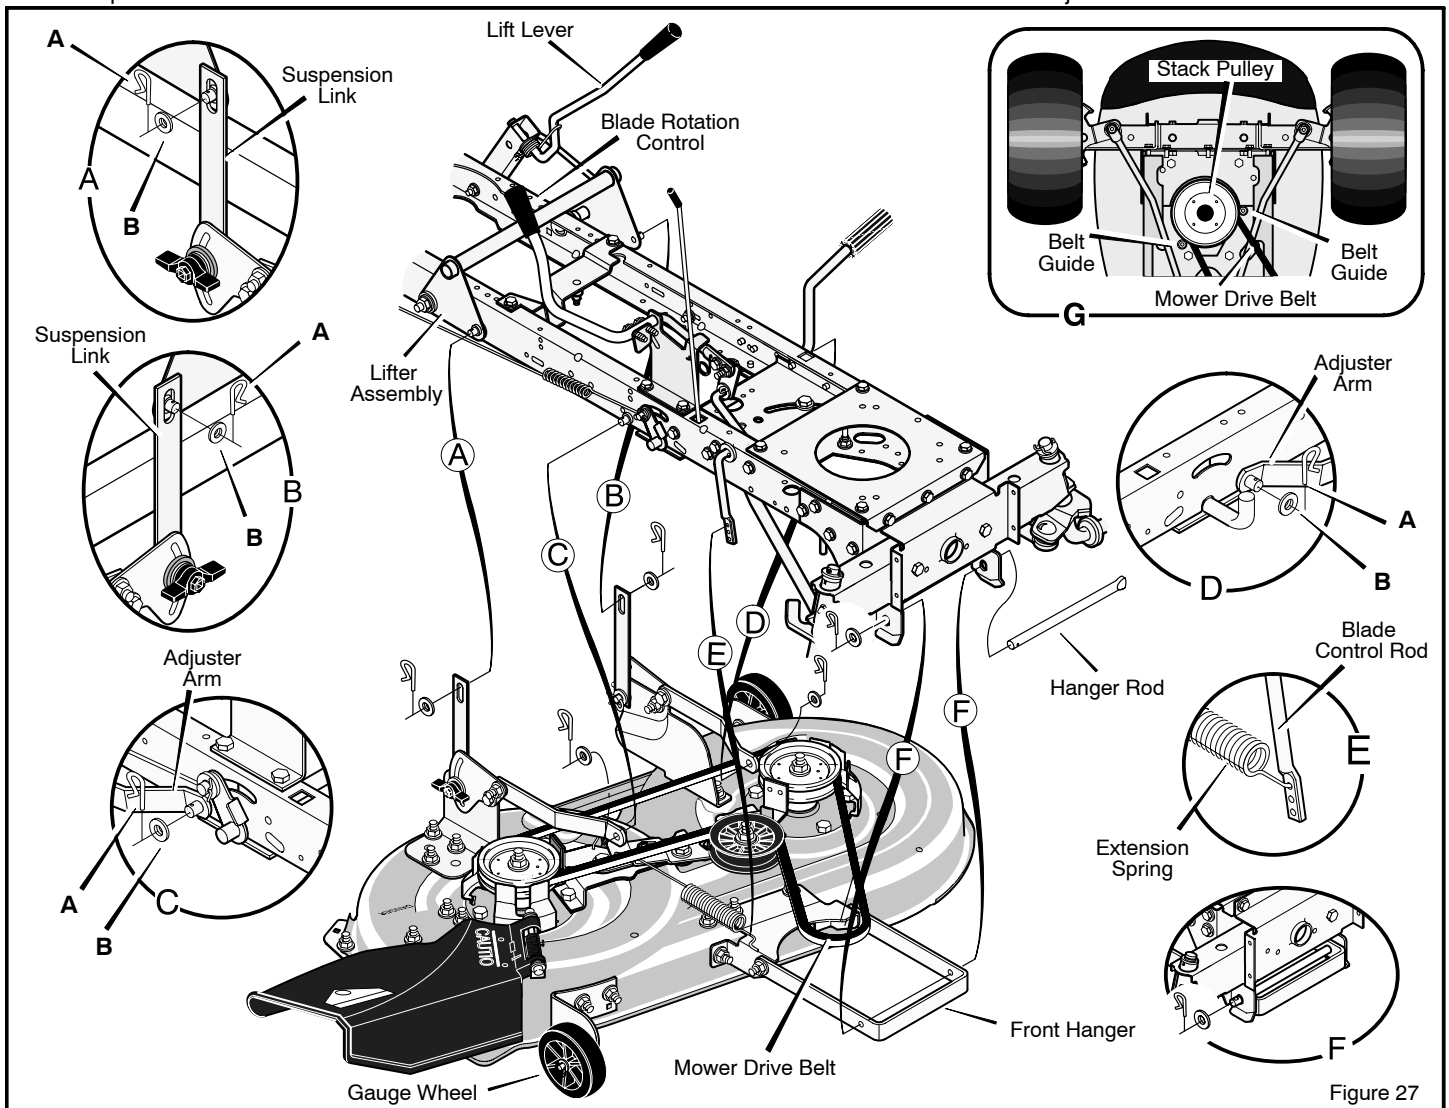

Figure 27
4. Remove the hair pins and the washers from the **adjuster arms** (Figure 27). See illustrations "C" and "D".